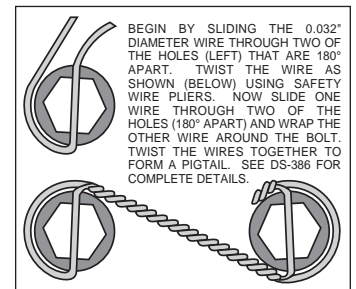

Figure 3. Safety Wire Diagram
- Orient the rotor (6) and the hat (7) as shown in Figure 1 and Photo 3. Attach rotor to hat using bolts (9) and washers (8). Using an alternating sequence, apply red *Loctite*® 271 to the threads, and torque to 140 in-lbs. For an added measure of security, the bolts may be safety wired using standard 0.032 inch diameter stainless steel safety wire as shown in Figure 3.